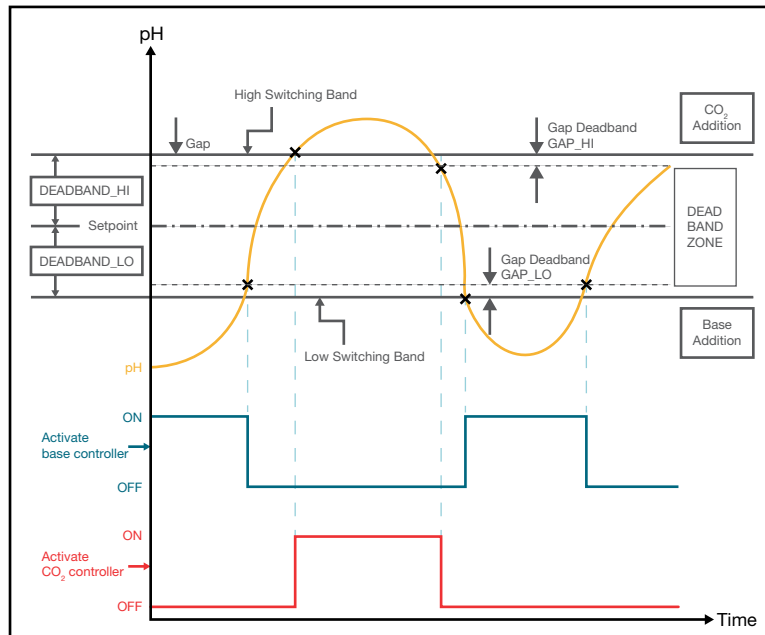

Figure 5.1. Operation of control loop with deadband and gap.
- This allows extra time for equilibration if the control loop has been activated. Figure 5.1 illustrates the operation of a control loop, with the deadband and the gap shown.